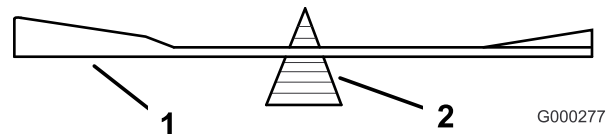

Figure 50
2. Check the balance of the blade by putting it on a blade balancer (Figure 50). If the blade stays in a horizontal position, the blade is balanced and can be used. If the blade is not balanced, file some metal off the end of the sail area only (Figure 50). Repeat this procedure until the blade is balanced.